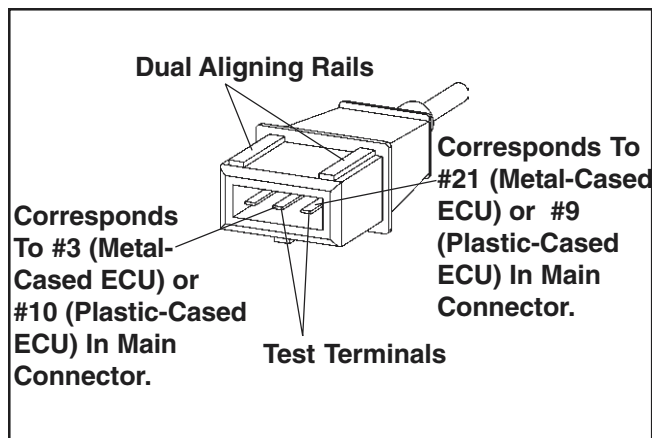

Figure 5B-4. Throttle Position Sensor Connector.
3. Disconnect speed sensor connector from wiring harness. It is the connector with one heavy black lead (see Figure 5B-4). Viewing the connector as shown (dual aligning rails on top), test resistance between the terminals indicated. A reading of **750-1000  $\Omega$**  should again be obtained.